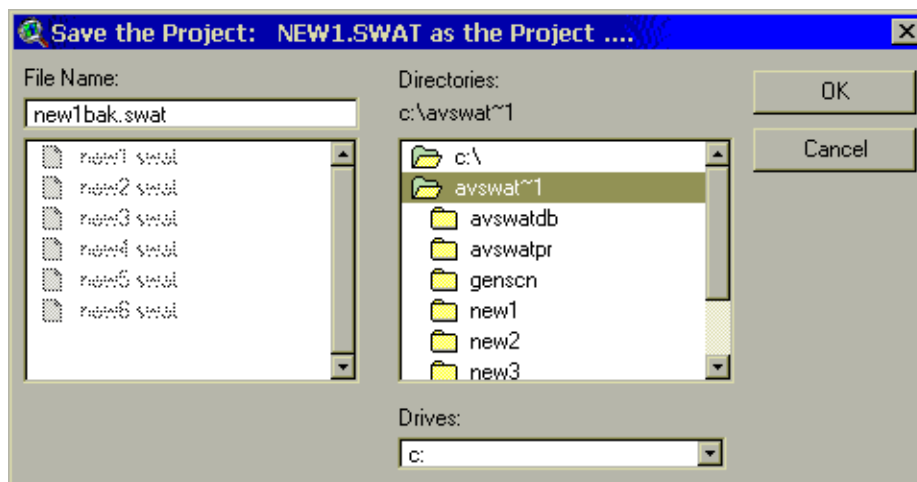

Figure 4.6
4. A new browser will be displayed (Figure 4.6). If you wish to copy the project to a different directory, move to the desired directory. Type the new project name in the text box and click **OK**.